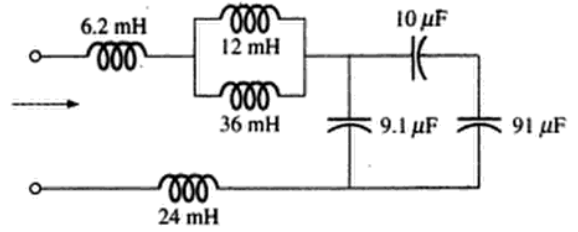

FIG. 11.103
38. Reduce the network in Fig. 11.103 to the fewest elements.